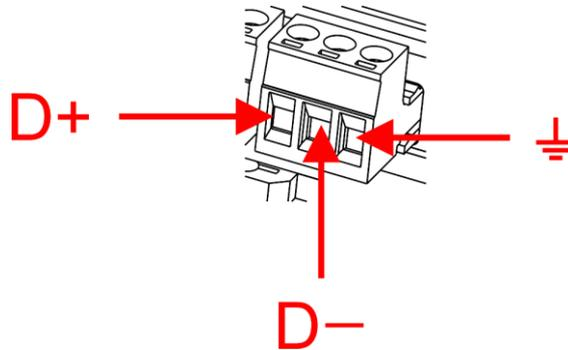

Fig. 11
- 02) Use a DMX cable to connect the DMX OUT connector of the lighting controller to the DMX IN connector of the first device. Insert the cables correctly. See Fig. 11.
- 03) Connect the first device's DMX THRU connector to the second device's DMX IN connector with a DMX cable. Insert the cables correctly. See Fig. 11.